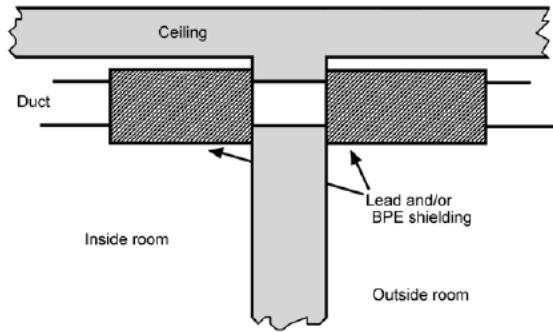

Fig. 4.4. Duct wrapped with shielding material on both sides of barrier.
- (2) or the ducts *should* be wrapped with lead and BPE, as shown in Figure 4.4.